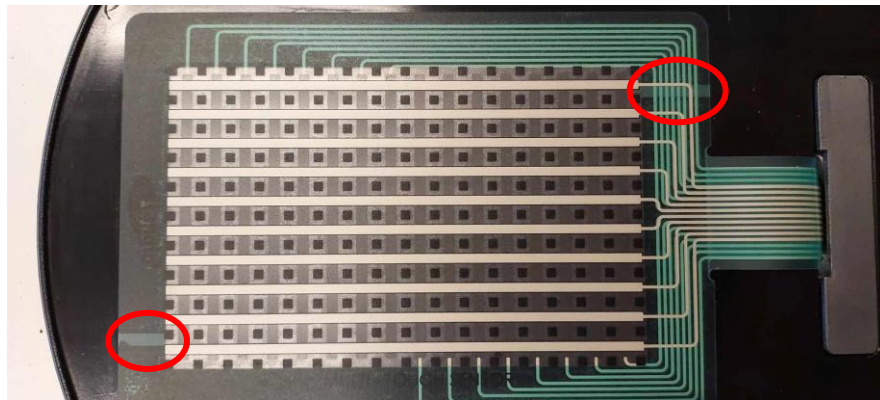

Figure 9. The sensor air vents are indicated in the red circles.
9. Pour a small amount of alcohol on a piece of cloth and wipe the adhesive residues. Warning! Use a small amount of alcohol and prevent the alcohol from inserting the air vents of the sensor (Figure 9). If the alcohol enters the air vents of the sensor, the sensor might be irrevocably damaged.